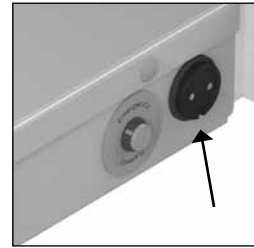

Figure 7 Charging point.
- The charging point is located in the centre of the undercarriage (See figure 7).
- Connect the charger to the shower stretcher / dressing table (See figure 7).